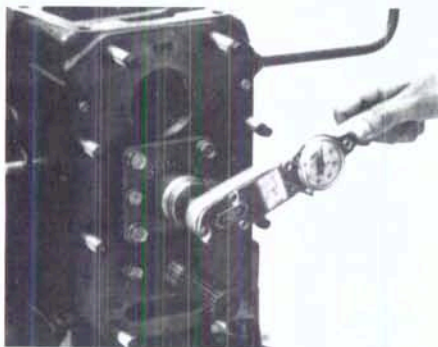

Fig. 130—Use a torque wrench as shown to check torque required to rotate differential assembly. Refer to text.
94. BEARING PRELOAD. To check differential bearing preload, measure torque required to rotate bevel pinion shaft and differential assembly using a torque wrench as shown in Fig. 130. Rotating torque should be 0.4-0.9 N·m (4-8 in.-lbs.) on Models L185, L245 and L285; 1.4-4.1 N·m (13-36 in.-lbs.) on Model L235; 3.9-6.4 N·m (35-66 in.-lbs.) on Model L275; 0.9-1.1 N·m (8-10 in.-lbs.) on Models L295, L305, L345 and L355. Adjust preload by changing thickness of differential carrier bearing shims until desired rotating torque is obtained.